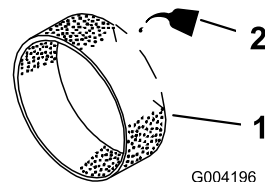

Figure 42
3. Put 3 to 6 cl (1 to 2 fl oz) of oil on the pre-filter (Figure 42).